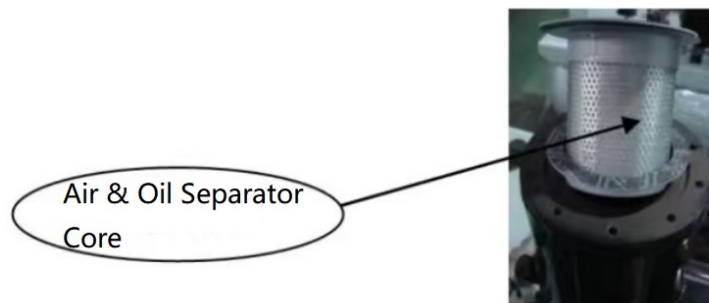

Figure 1-5
i) Check, clean, and replace Air & Oil Separator Core when necessary, as shown in figure1-5.